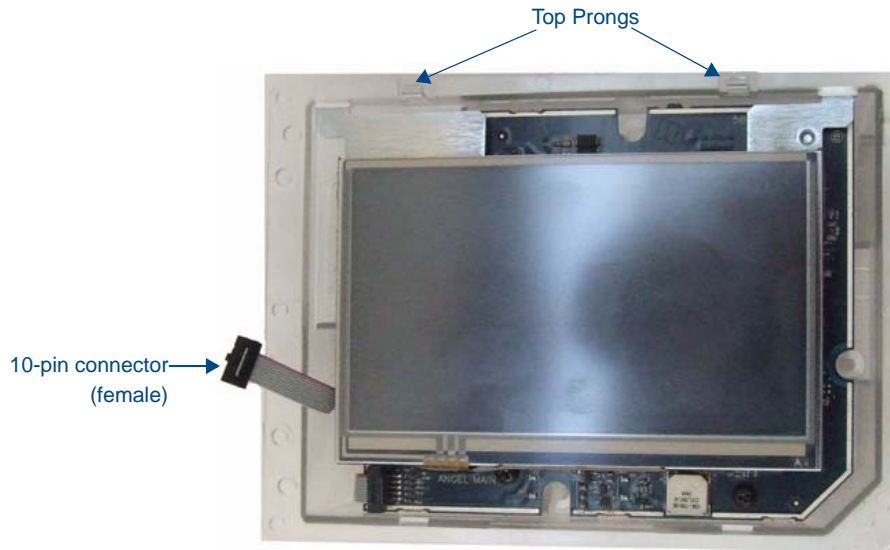

FIG. 6 View of NXD-435 with faceplate removed
3. Carefully detach the capacitive touch 10-pin female connector from the faceplate. Facing you, the connector is on the bottom left corner of the device and on the bottom right corner of the faceplate (FIG. 6).